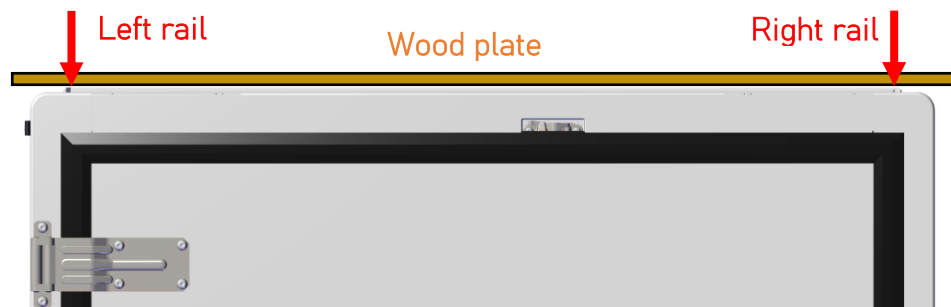

Figure 7 – Positioning of protective wooden plate on the container roof before stacking
- If stacking with lightweight object, always place wooden plate, or similar, **large enough to rest on both rails (at least 1'534 mm)** of the container roof to protect the photovoltaic panels (Figure 7).